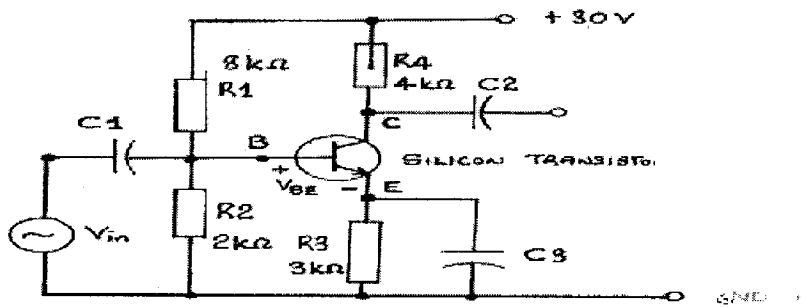

FIG Q2
2. In Figure Q2, given $\beta_{dc} = 250$.